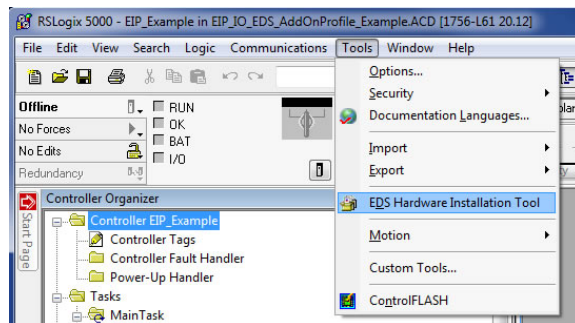

Figure 32: EDS Hardware Installation Tool Menu
- 1) Register the interface card's EDS file. In the menu bar, navigate to Tools...EDS Hardware Installation Tool. Refer to Figure 32.